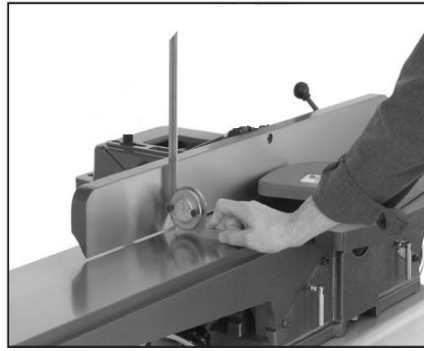

Figure 14
1. Using a 90° square, adjust the fence to the 90° position, as shown in Fig. 14